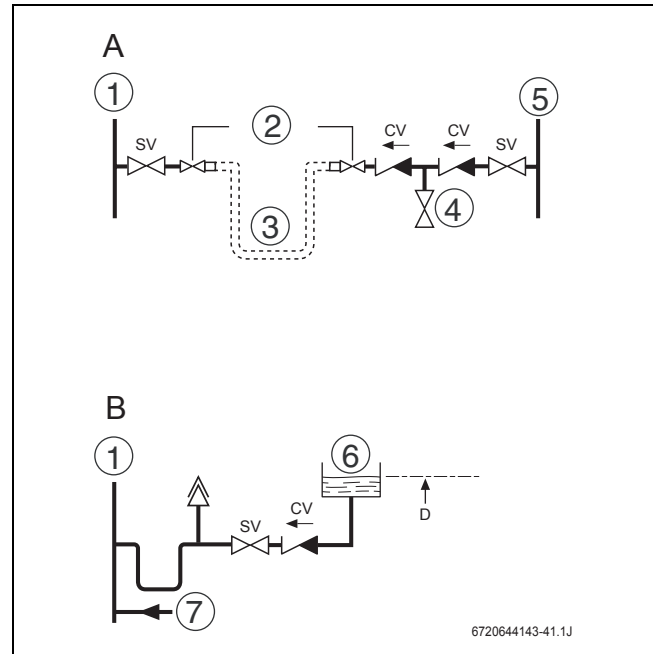

Fig. 6
- The CH sealed system must be filled using an approved filling loop or comply with figure 6 for system fill.